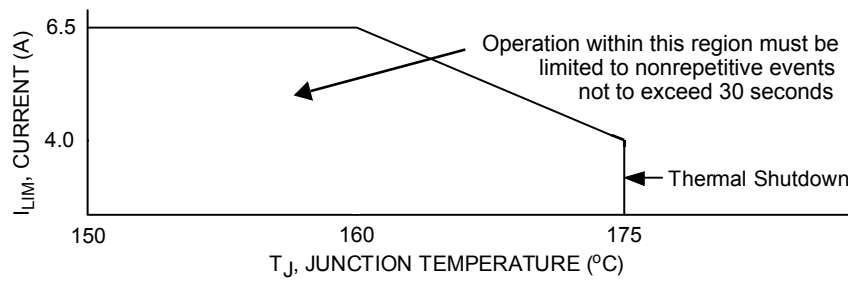
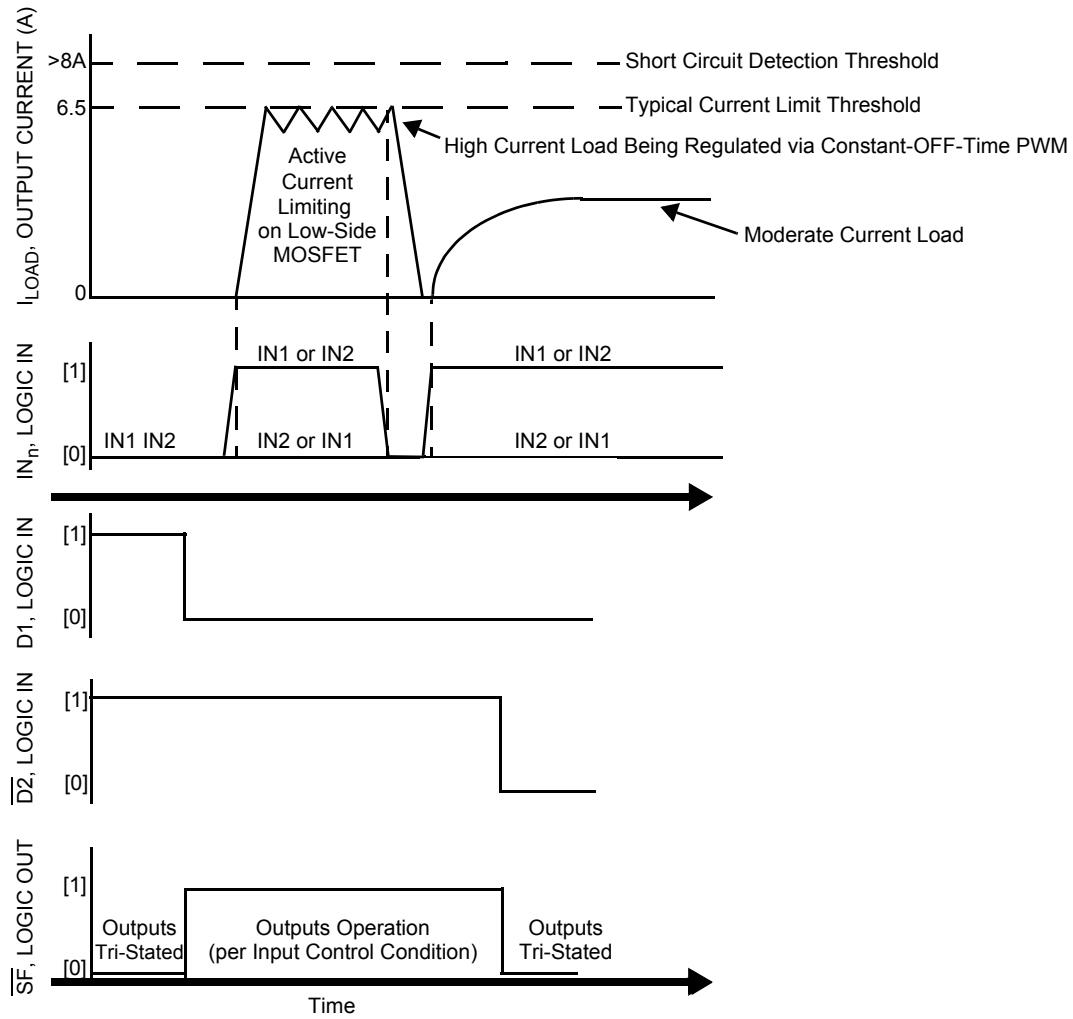

Figure 5. Active Current Limiting Versus Temperature (Typical)
Figure 6. Operating States
27. Load currents ramping up to the current regulation threshold become limited at the I_{LIM} value. The short circuit currents possess a di/dt that ramps up to the I_{SCH} or I_{SCL} threshold during the I_{LIM} blanking time, registering as a short circuit event detection and causing the shutdown circuitry to force the output into an immediate tri-state latch-OFF. See Figures 6 and 7, page 12. Operation in Current Limit mode may cause junction temperatures to rise. Junction temperatures above $\sim 160^{\circ}\text{C}$ will cause the output current limit threshold to progressively “fold back”, or decrease with temperature, until $\sim 175^{\circ}\text{C}$ is reached, after which the T_{LIM} thermal latch-OFF will occur. Permissible operation within this foldback region is limited to nonrepetitive transient events of duration not to exceed 30 seconds. See Figure 5, page 11.